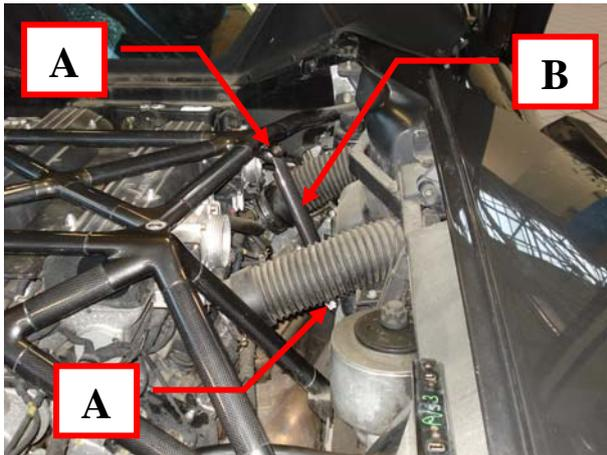

Fig.3
- Unscrew the two screws (**A-Fig. 3**) that attach the right arm to the chassis (**B-Fig. 3**).